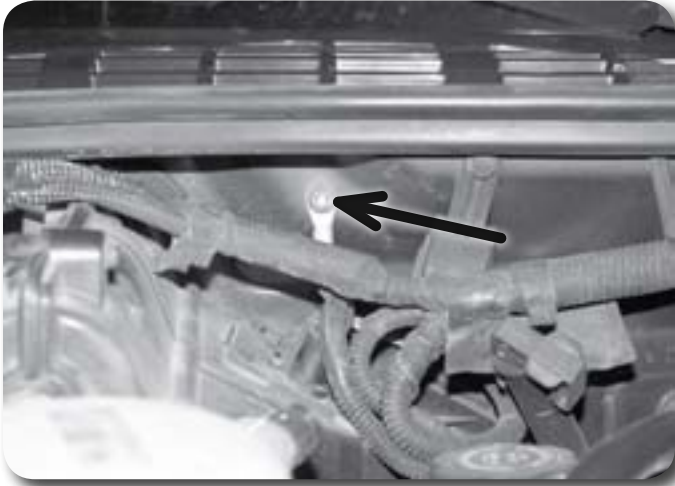

Figure 12
14. Remove the nut mounting the ground strap at the passenger's side firewall and remove the wire from the stud **Figure 12**. Save nut.